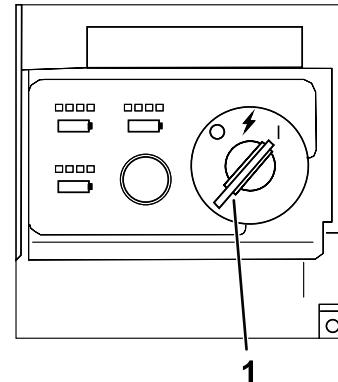

Figure 17
3. Turn the key to the RUN position to turn on the machine (Figure 17).